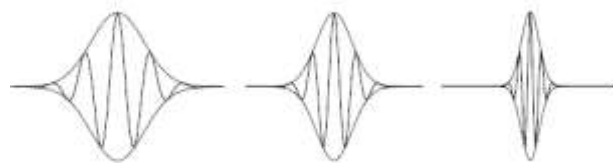
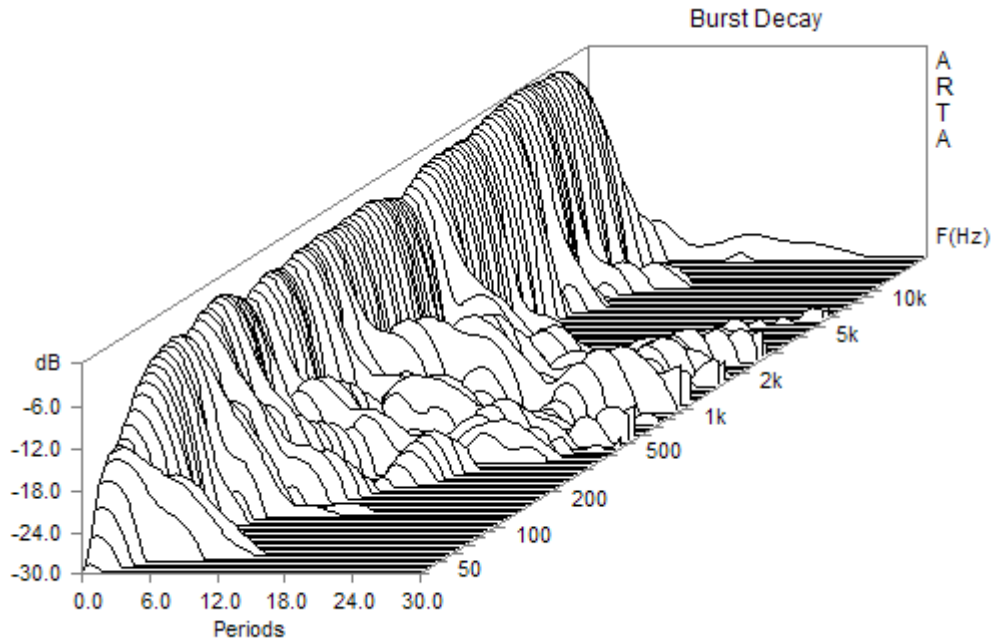

Figure 6.24 Sine bursts shaped with Gaussian window (shown as envelope). Constant number of cycles on every frequency assures a constant relative bandwidth.
Figure 6.25 Envelopes of shaped sine burst response decay of a small loudspeaker
The monitoring of a sine burst decay response is well known technique for the analysis of the transient behavior of resonant systems [46]. A constant number of cycles N , of shaped sine burst (Fig. 6.24), are used to excite the DUT on various frequencies f_{oi} in a constant relative bandwidth $\Delta f/f_{oi}$. The envelope of the system response is monitored to give insight into the burst decay patterns. Figure 6.25 shows envelopes of shaped sine bursts decay responses of a small loudspeaker. A waterfall graph shows level of burst response envelopes as a function of frequency and time expressed in burst sine periods (t/T).
- Waterfall_P is a burst decay envelope graph as shown in Fig. 6.25 and